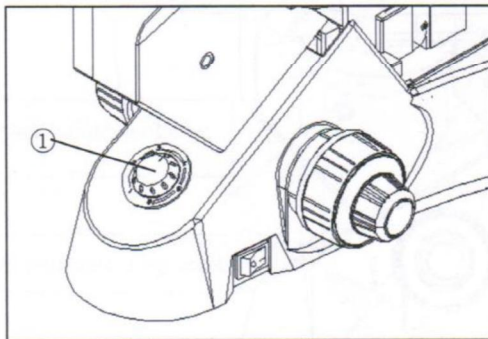

Fig.21
4-1-2 Adjusting the brightness (Fig.21)
If the nosepiece descends on its own, or the specimen gets out of focus soon even you focus with the fine focus knob③, It means the coarse focusing knob is too loose .you should screw the tension adjustment collar down at the direction of the arrowhead in fig.21 to increase the tension.